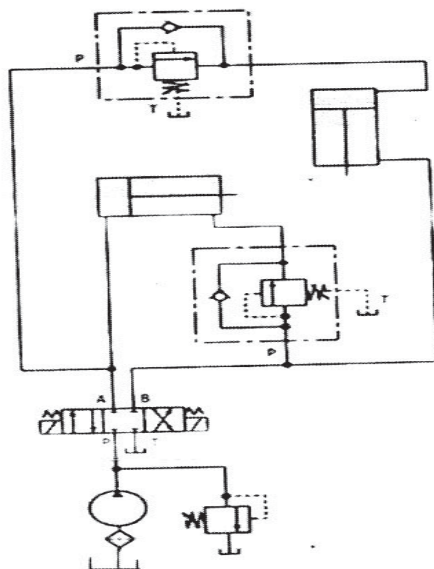

Fig. 7 (b)
b) Analyze the circuit shown in Fig 7 (b) [7]